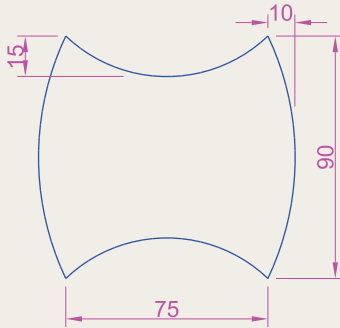
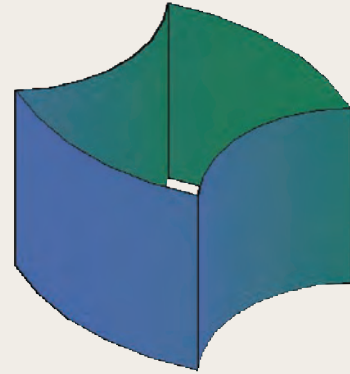

Fig. 14.50 Exercise 5 – outline to be extruded
Fig. 14.51 Exercise 5
5. In the **Top** view on a layer colour **blue** construct the four polylines shown in Fig. 14.50. Call the **Extrude** tool and extrude the polylines to a height of **80** and place in the **Isometric** view. Then call **Visual Styles/Conceptual** shading (Fig. 14.51).